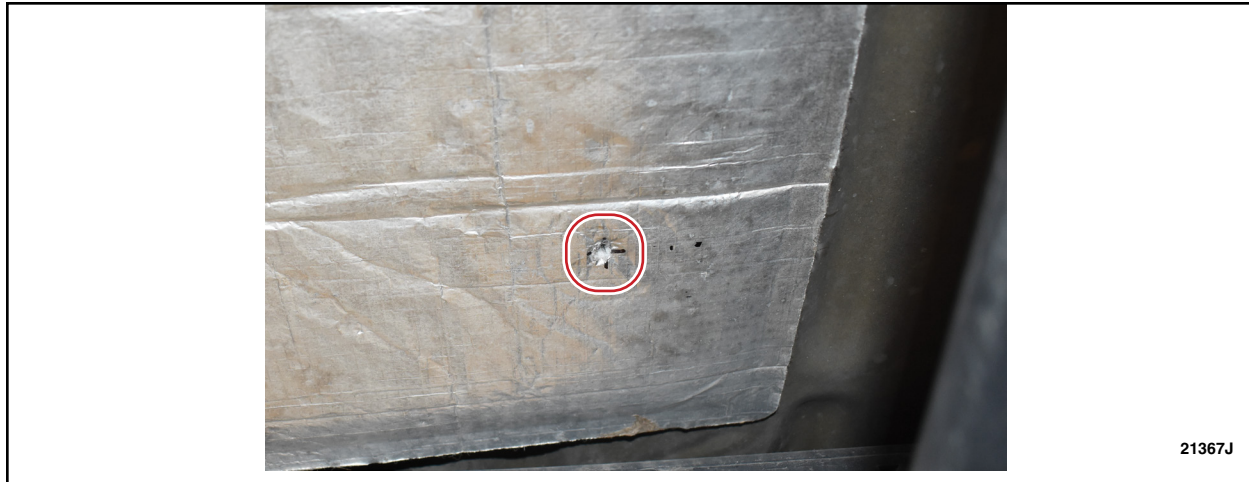

FIGURE 6
8. Using the 6.7mm (17/64 in) drill bit, drill a hole through the insulator and into the floor. See Figure 6.